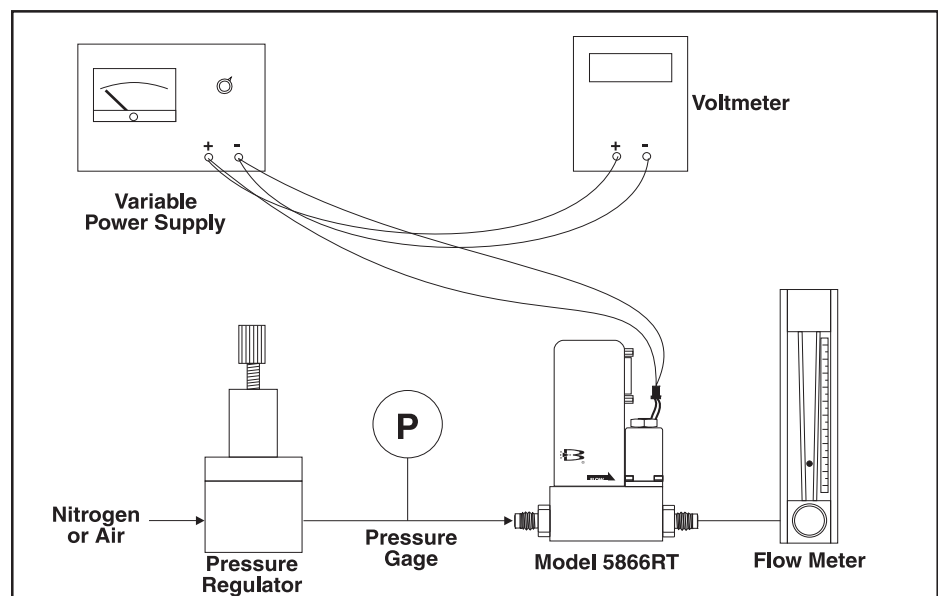
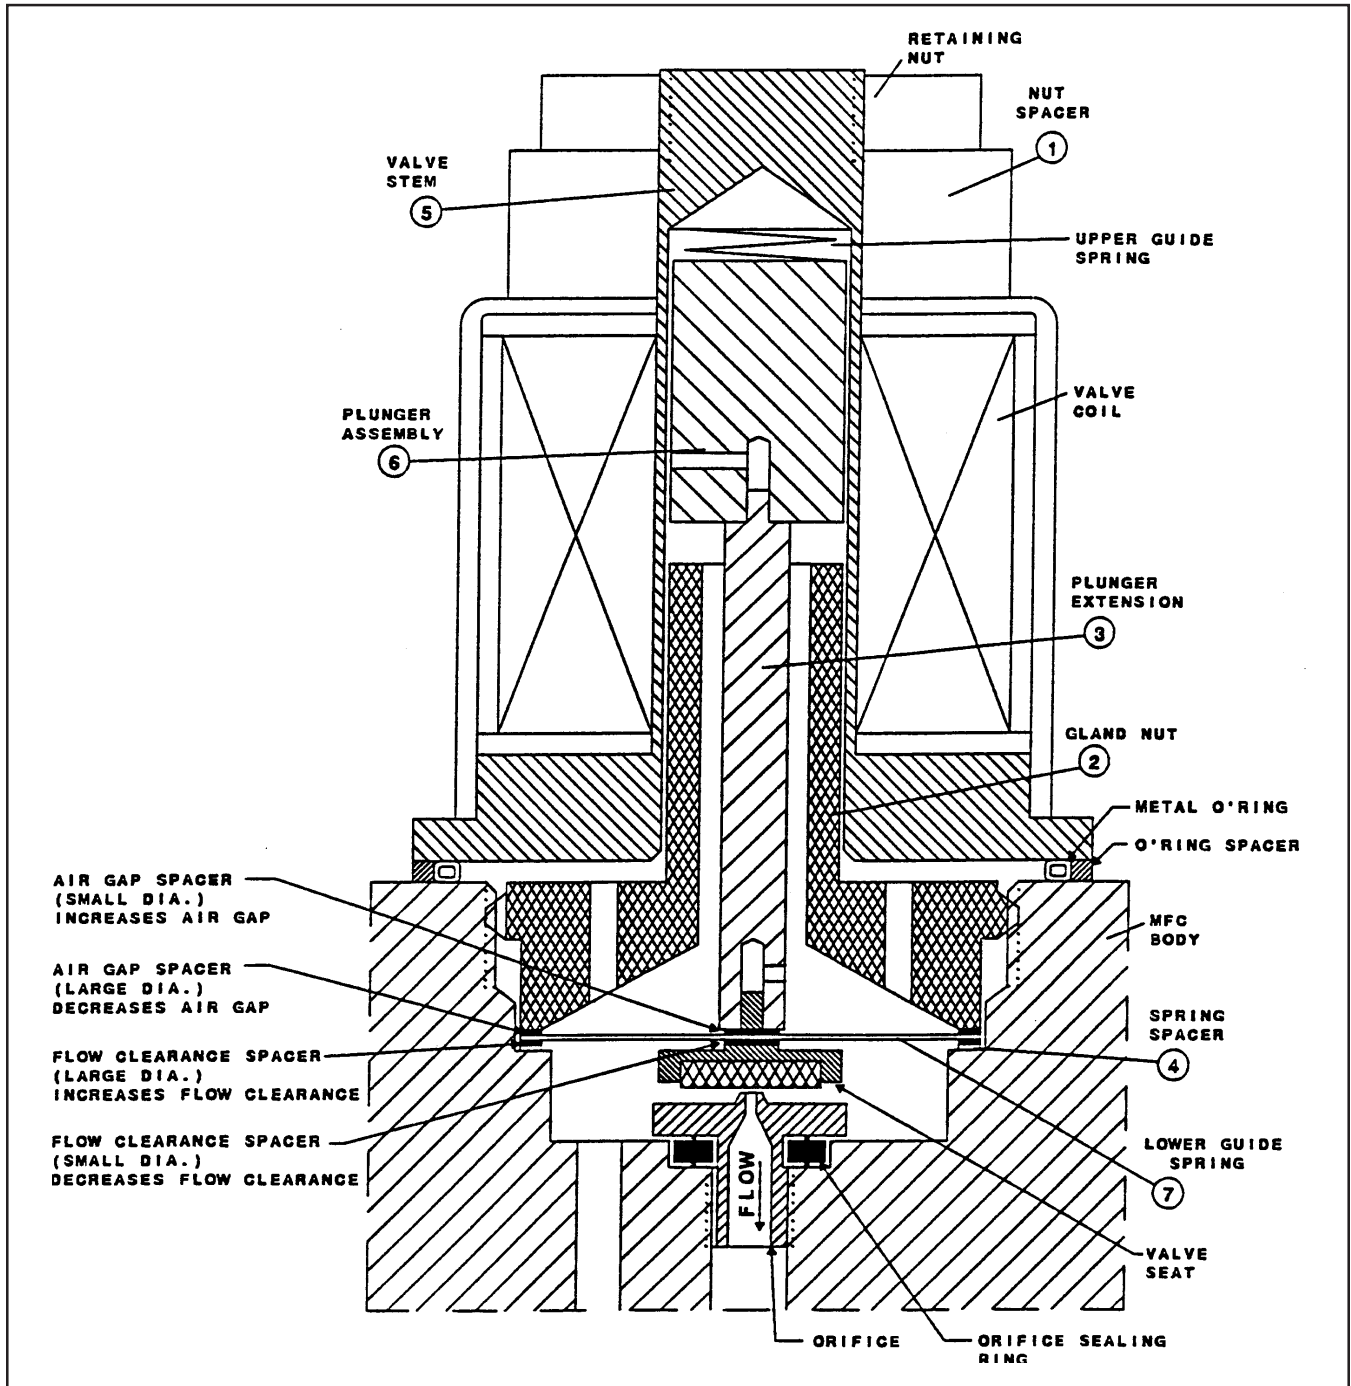

Figure 5-2 Adjustment Test Setup
Figure 5-7 Valve Adjusting Spacer Locations, Normally Open (N.O.) Metal Sealed Valve
The adjustment procedures below require the use of a variable voltage power supply, pressure regulator, pressure gage, voltmeter, flow meter and a supply of nitrogen. The test set up is shown in Figure 5-2. The power supply must be capable of delivering 400 mA at 30 V. If the proper equipment or facilities are not available to perform this procedure, please return the instrument to the factory or an authorized repair station. Refer to Figure 5-7 for the location of
1. Make the bench testing set up as shown in Figure 5-2. Disconnect the valve connector from the side of the Model 5866RT and connect it to the variable power supply and voltmeter as shown. Polarity is not important.